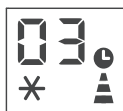

Fig 12
2. Press several times until the corresponding time is displayed. Wait about 5 seconds, the timer will be active. then only the 🔌 symbol is displayed on screen. (fig.12)